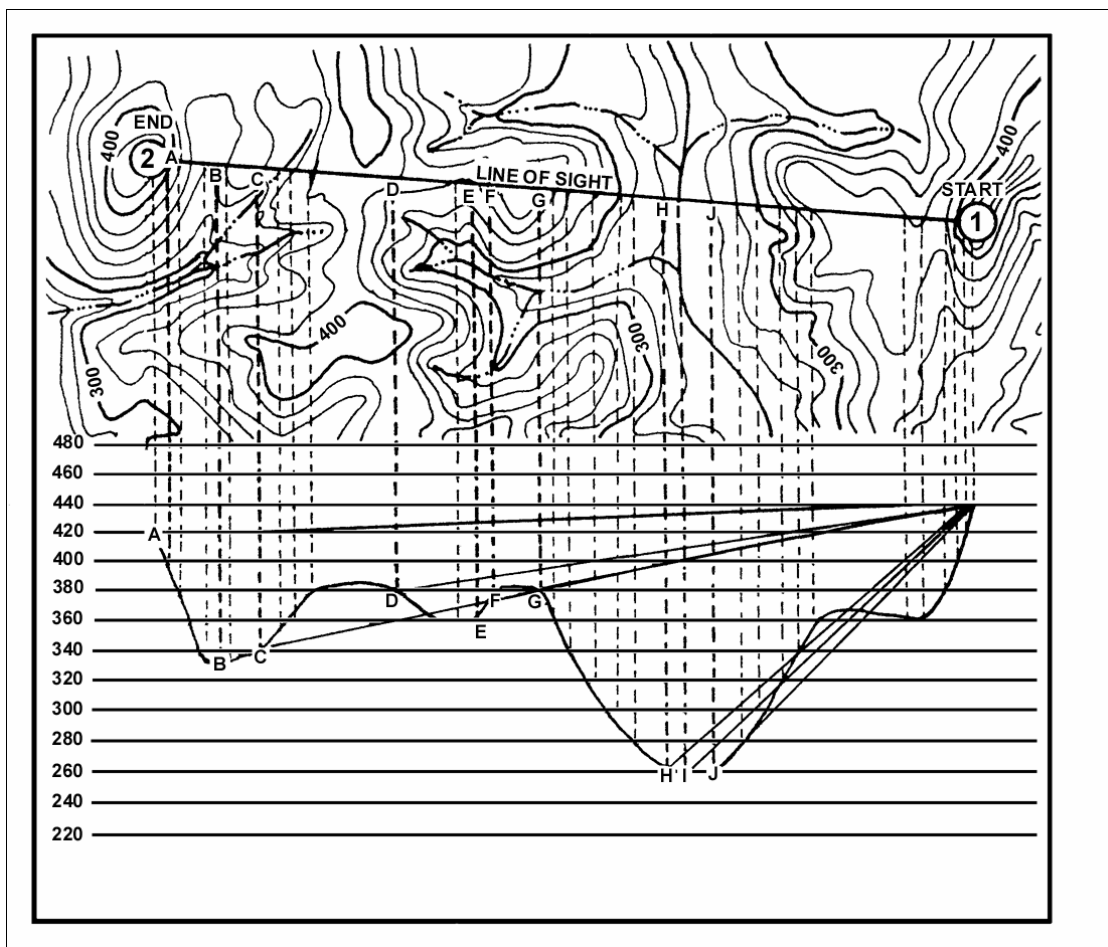

Figure 5-28. Terrain profile.
(3) Connect all the points with a smooth curve (Figure 5-28).